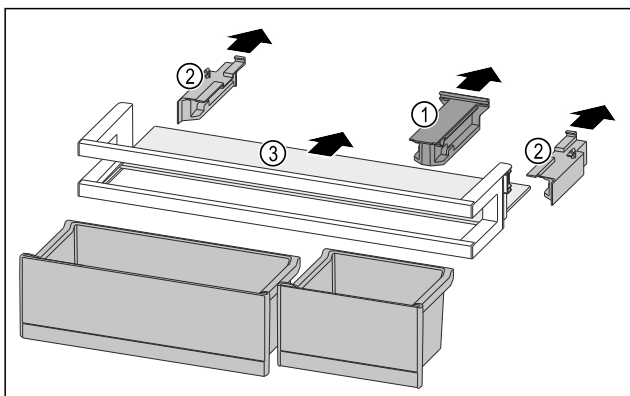

Fig. 84
- ▶ Pull off the retaining part Fig. 84 (1).
- ▶ Pull off the side part Fig. 84 (2).
- ▶ Remove the shelf Fig. 84 (3).